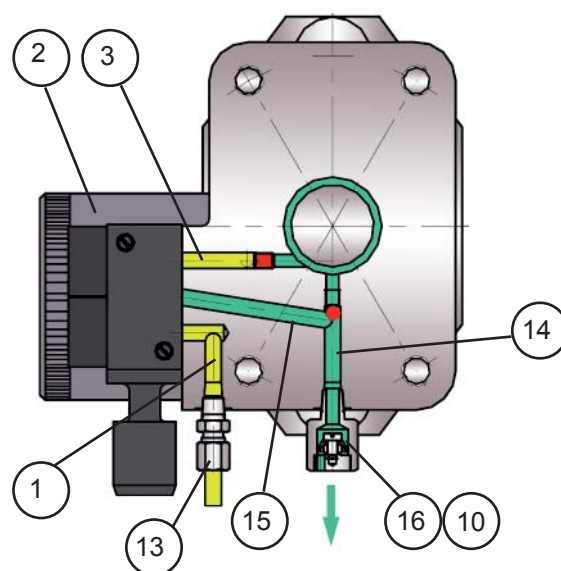

Fig. 3 Airflow inside the yoke of the R5 actuator
The vent passage (14) is connected with interior of the adjuster by the channel (15) (Fig. 3).